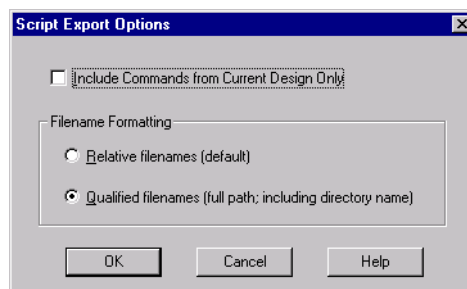

Figure 3-3. Script Export Options Dialog Box.
3. **Click Save.** A Script Export Options dialog box is displayed, as shown in Figure 3-3.